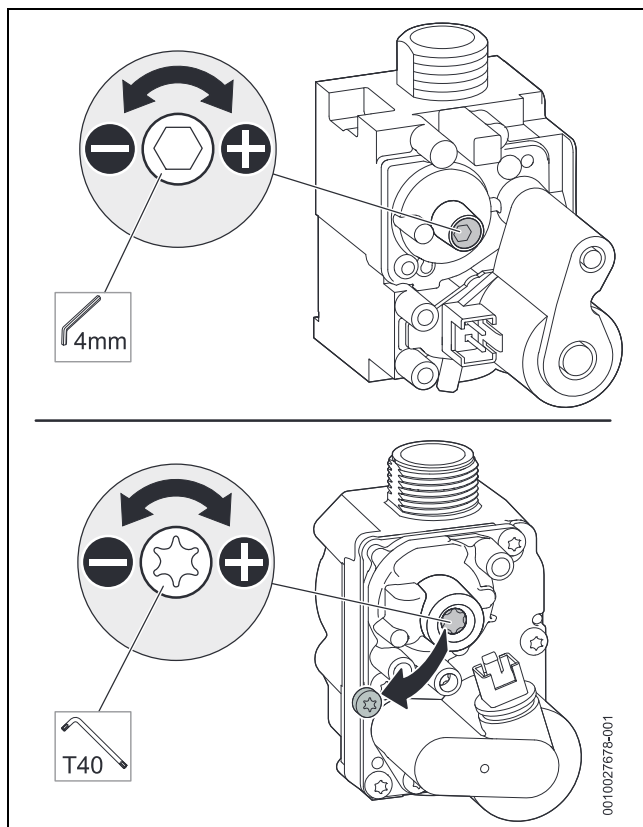

Fig. 87 Setting the CO₂ or O₂ content (above: SIT valve, below: Honeywell valve)
- ▶ Remove the seal from the adjusting screw of the gas valve (only gas valve is shown in the below Figure 87) and set the CO₂ or O₂ content for minimum rated output.